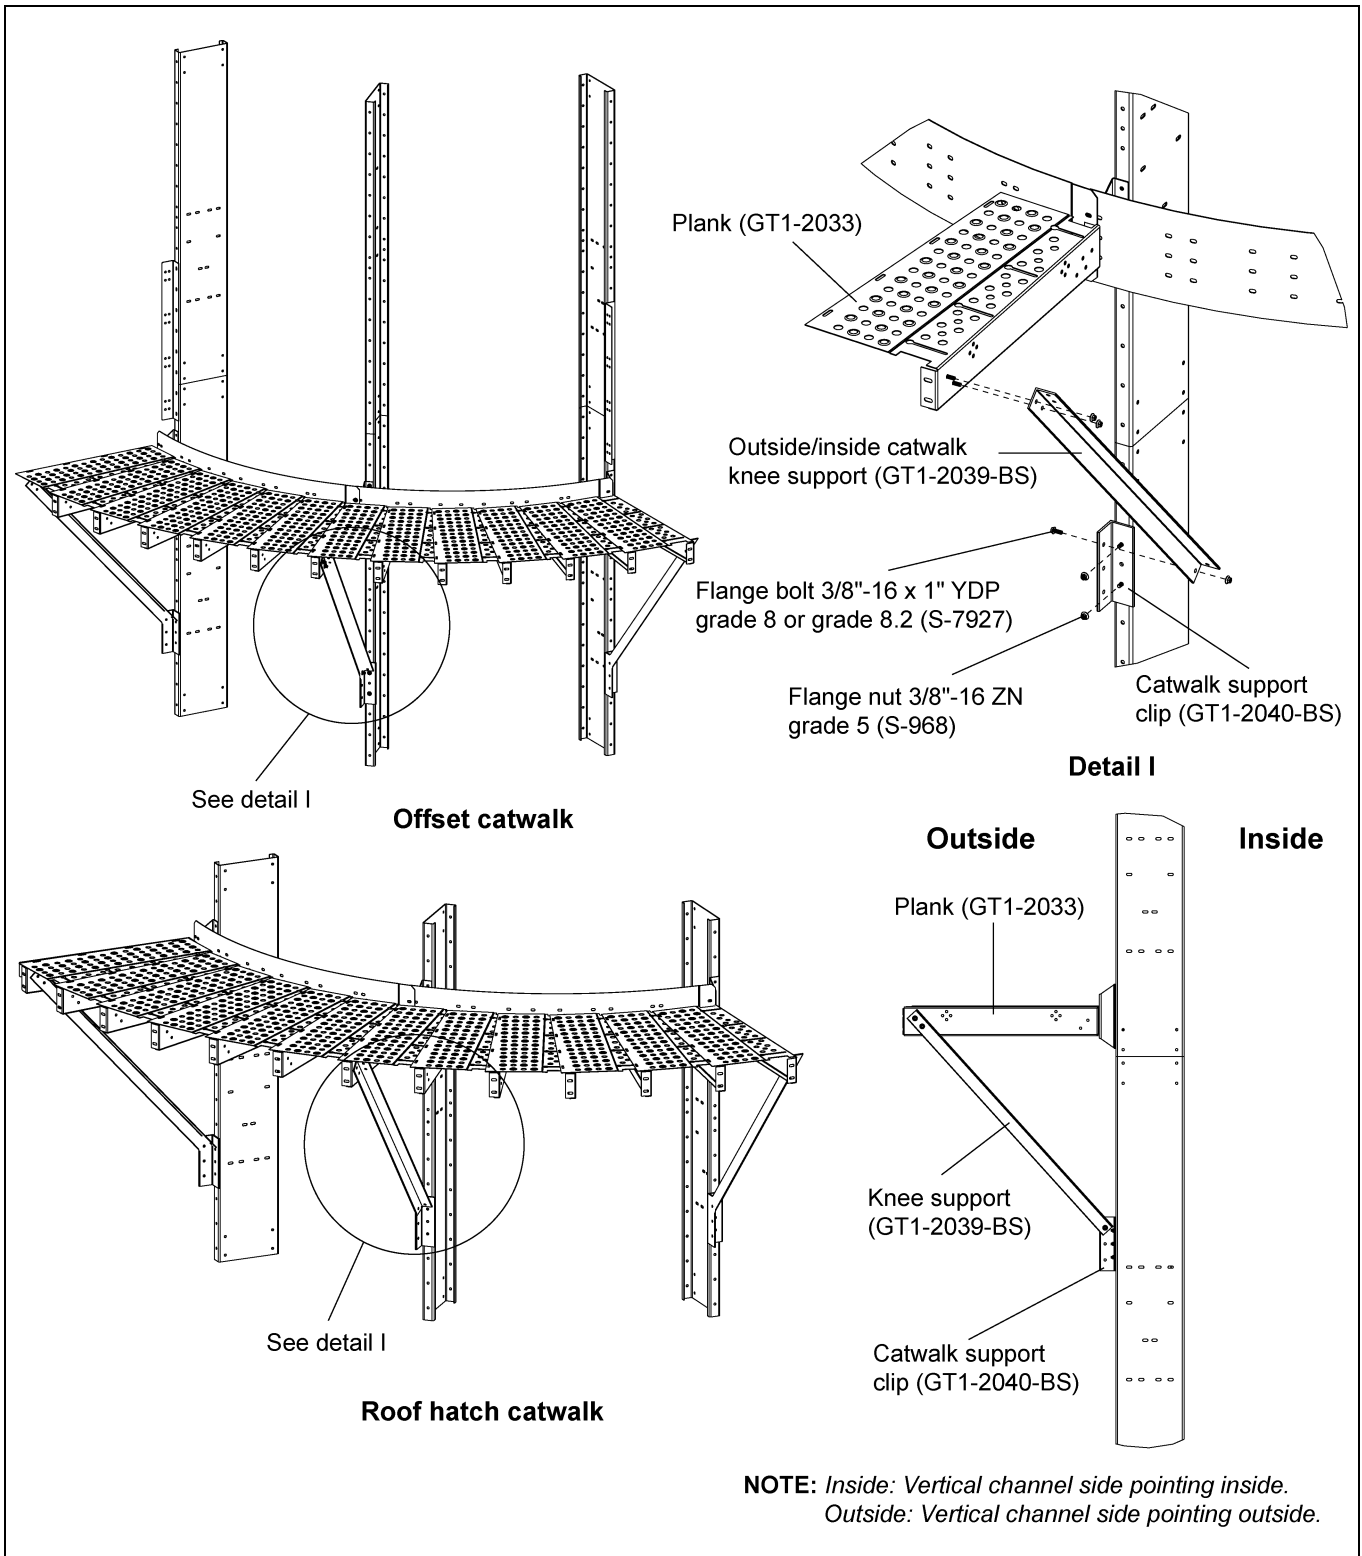

Figure 6S Knee Support (GT1-2039-BS) Installation for Offset and Roof Hatch Catwalks
1. Install the knee support (GT1-2039-BS) around the dryer between the catwalk support clips (GT1-2040-BS) and the planks (GT1-2033) using 3/8"-16 x 1" YDP grade 8 or grade 8.2 bolts (S-7927) and 3/8"-16 ZN grade 5 nuts (S-968). (See Figure 6S.)